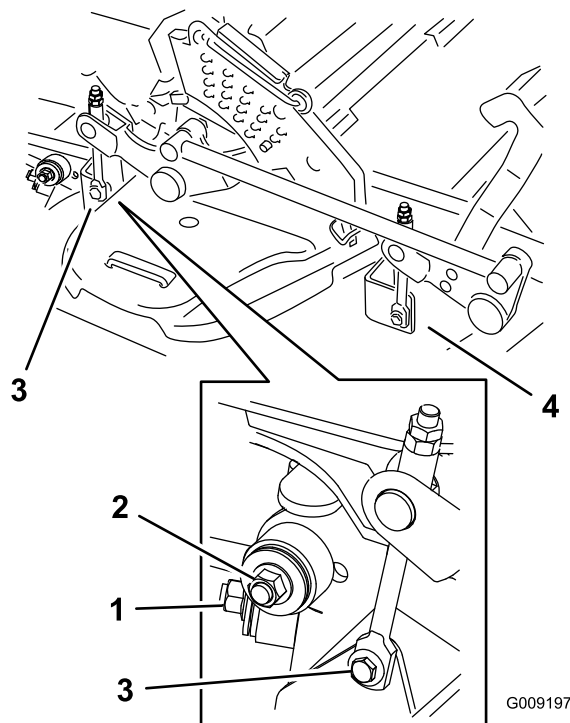

Figure 96
8. Remove and retain the hardware on both sides of the deck as shown in Figure 96.